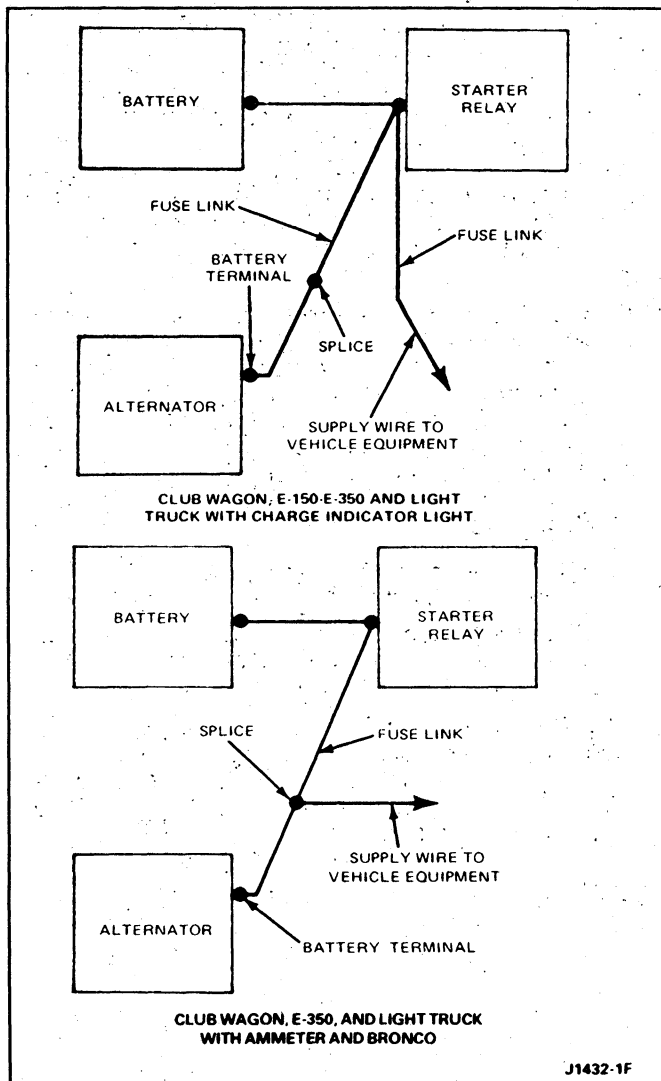

FIG. 3 Fuse Link Installation
Production fuse links have a flag moulded on the wire or on the terminal insulator. Color identification of the flag or connector is Blue-20 Ga. wire, Red-18 Ga. wire, Yellow-17 Ga. wire, Orange-16 Ga. wire, or Green-14 Ga. wire. Fig. 3 shows typical fuse link installations.
2. Where there are two fuse links (Fig. 3), repeat Step 1 to test the fuse link that protects the vehicle equipment.
To service any blown fuse link (Fig. 3) use the following procedure: